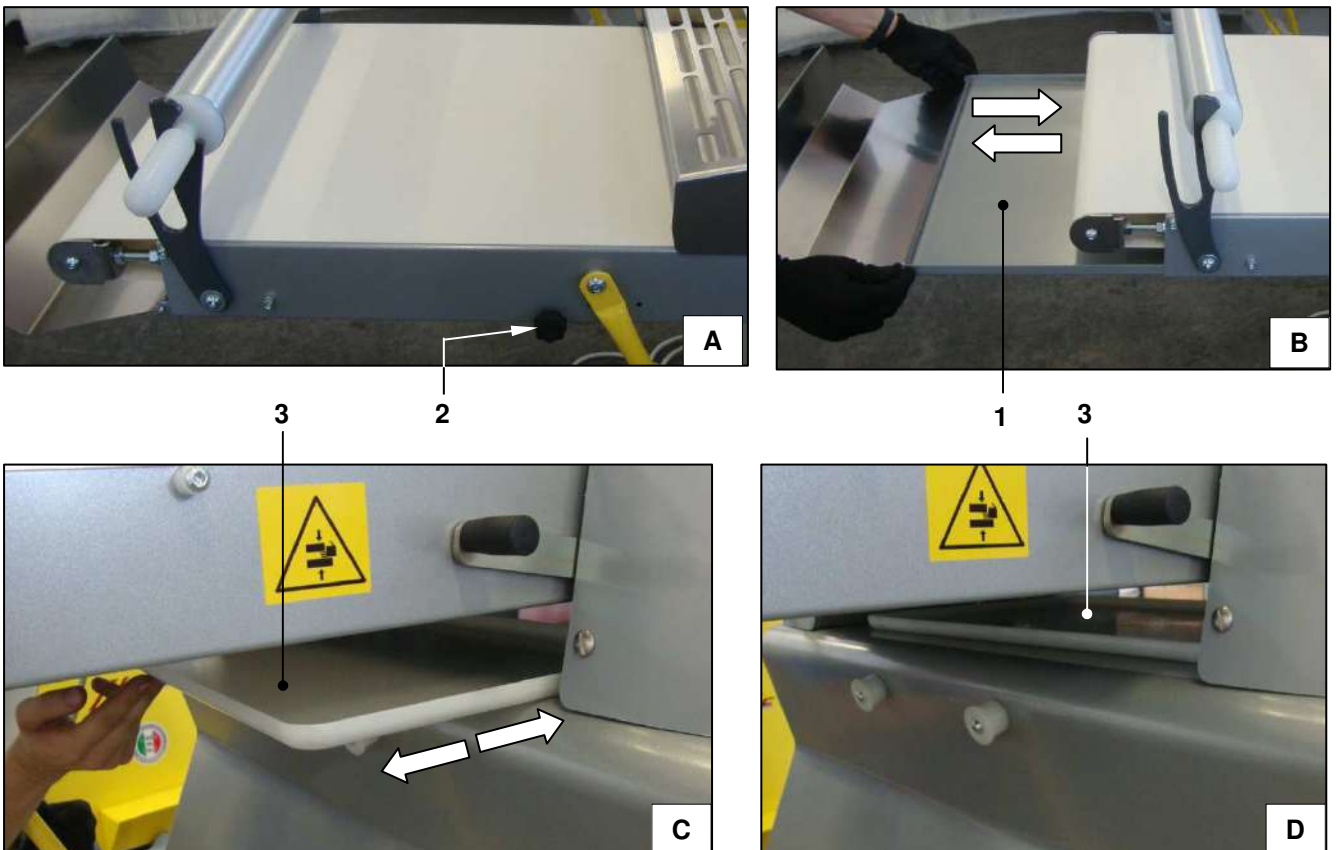

Figure 20 - Under-table and central (only SF500 and SF600) residue collection trays
With reference to Figure 20, there is a tray ref. 1 under each bench to collect dust and dough residues. It can be removed after having removed the threaded knobs ref. 2 (except model SF450 in which the dust and residue collection tray is integral with the catch pan), one on each side of the bench (photos A - B). When inserting the residue collection tray, fasten it in position using the threaded knobs ref. 2 (except for model SF450). For models SF500 and SF600 a tray is also provided ref. 3 to place under the rolling zone (photos C - D).